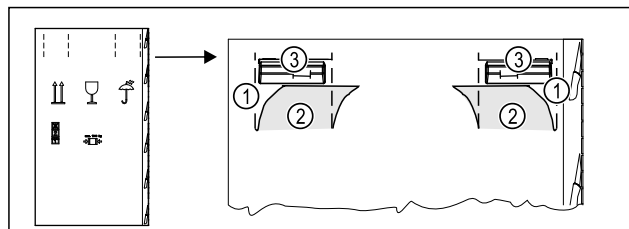

Fig. 3
- ▶ Press the packaging cardboard into the perforation Fig. 3 (1) at the top.
- ▶ Pull out any tabs Fig. 3 (2) that have been pushed in.
- ▶ Carrying handle Fig. 3 (3) visible on the right and left.
- ▶ Hold the appliance by the carrying handles Fig. 3 (3).
- ▶ Pull out any tabs (2) that have been pushed in.